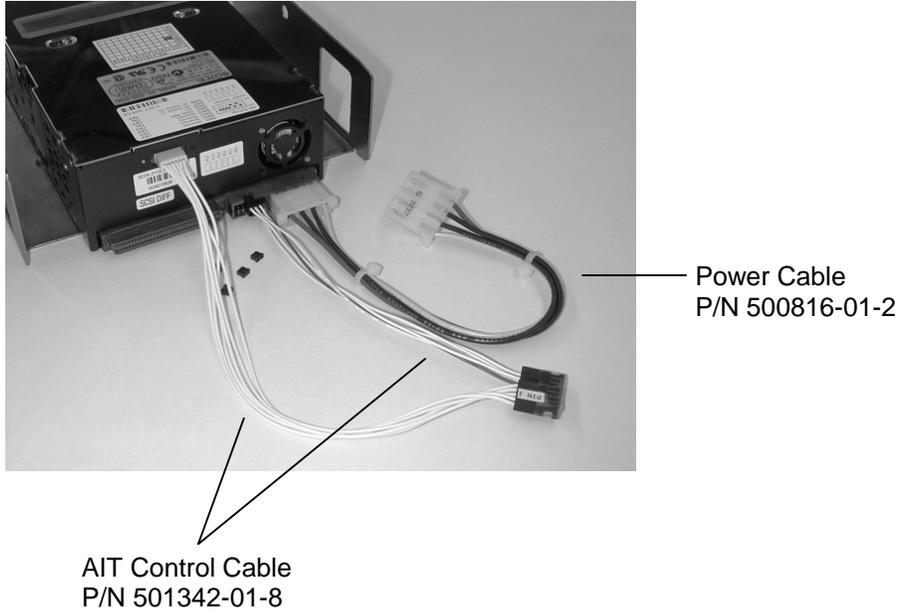

Figure 3-2 AIT Control & Power Cables
2. Remove the 4 SCSI ID jumpers (rightmost 4) from the rear of the AIT tape drive by using tweezers or a small bladed knife, etc. (see Figure 3-2) Store the jumpers with the drive packing materials in case the drive should ever need to be returned.